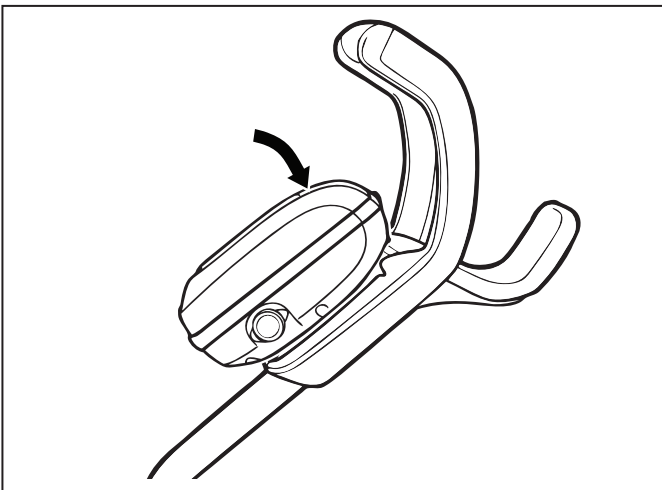

Figure 9. Attach the Control Box onto Caddy
2. Press control box onto the caddy hook until it snaps and locks into position (Figure 9).